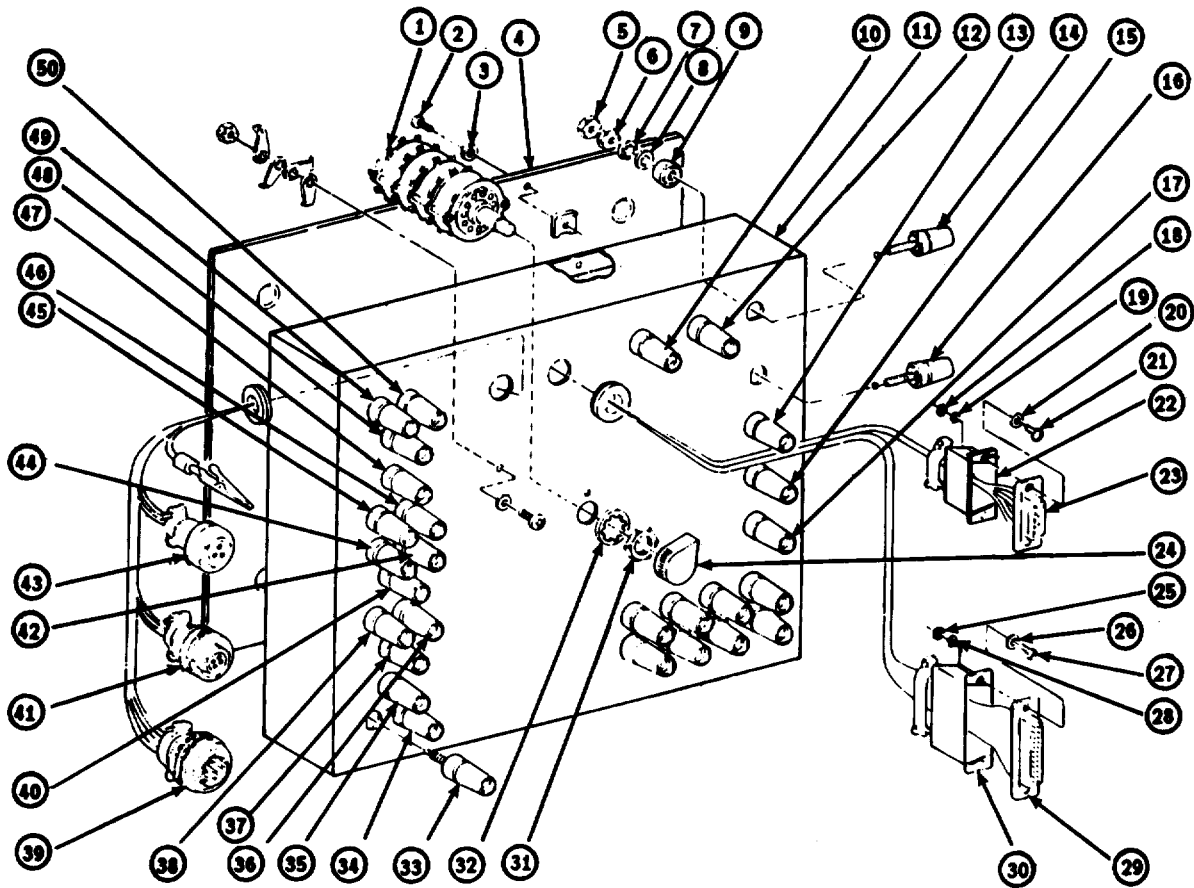

Figure 6-25. INTERFACE ASSEMBLY TEST FIXTURE
(See figures 6-25, 6-26, 6-27. )
- Remove four screws (2) and washers (3) securing bottom cover (4) to chassis (11). Remove bottom cover.
REPLACEMENT OF SWITCH S1 (1). (See figure 6-25. )
(See figure 6-25).
REPLACEMENT OF CONNECTOR ASSEMBLY (22) and (23). (See figure 6-25. )
REPLACEMENT OF CONNECTOR ASSEMBLY (30) and (29). (See figure 6-25.)
REPLACEMENT OF CONNECTOR ASSEMBLY (39), (41) and (43). (See figure 6-25. )